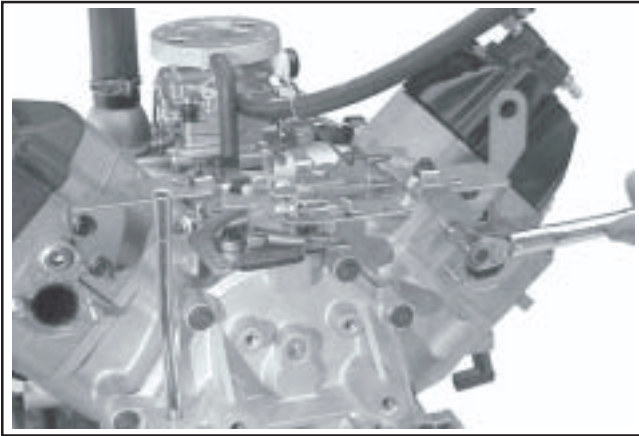

Figure 11-87. Installing Main Throttle Bracket.
4. Connect the choke lever of the main control bracket to the choke linkage from the carburetor. Mount the main control bracket to the cylinder heads with the four screws. Torque the screws to **7.3-10.7 N·m (65-95 in. lb.)**. See Figure 11-87.